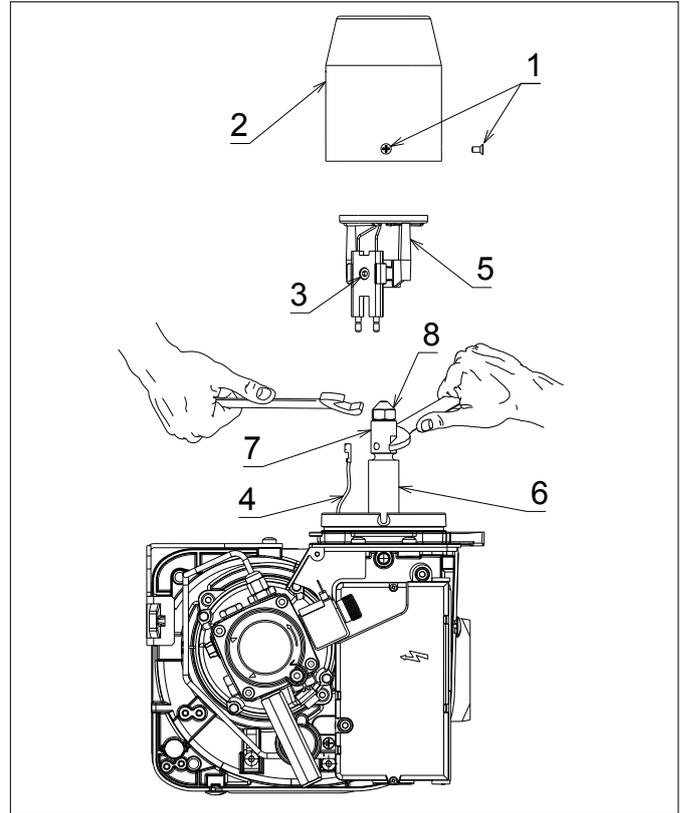
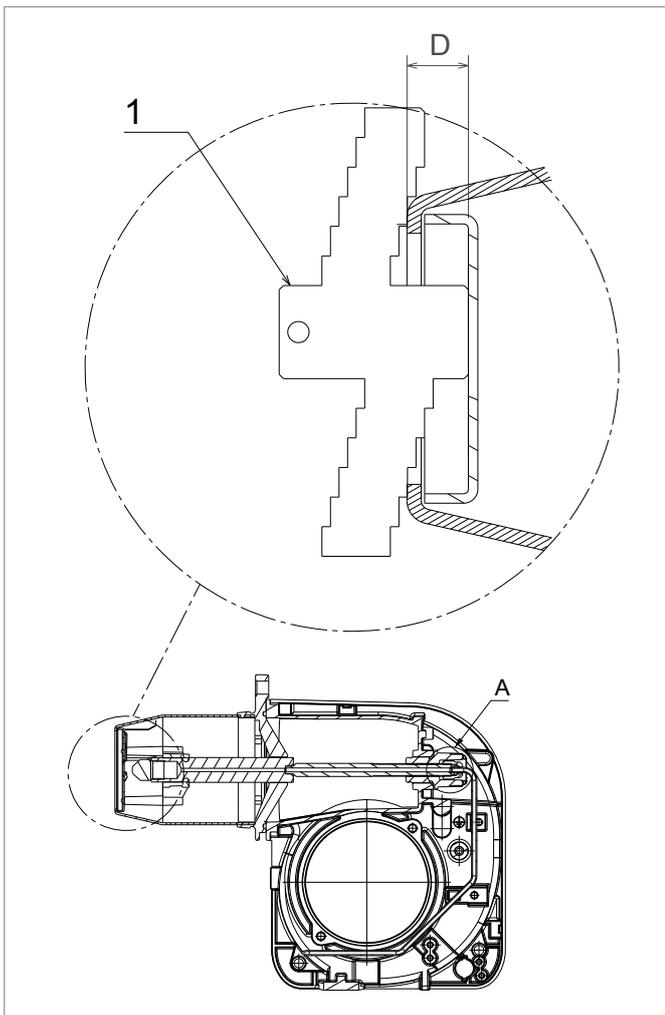

Figure 10-4: Burner head, diffuser and nozzle holder
Figure 10-6: Diffuser position and gauge plate
1. Remove the burner head. Refer to Figure 10-4. Loosen the three fixing screws (1) and remove head (2) from burner.
3. If the nozzle needs to be replaced - remove the diffuser/ electrode assembly. Refer to Figure 10-4.
- Using a 4 mm Allen key, loosen the diffuser fixing screw (3) on the electrode assembly.
- Lift diffuser/electrode assembly (5) up and off the nozzle holder.
- Disconnect both ignition leads (4) from the electrodes.
5. Re-fit the diffuser/electrode assembly. Refer to Figure 10-4.
- Reconnect ignition leads (4) to electrodes.
- Re-fit the diffuser/electrode assembly (5) onto the nozzle holder lining up the fixing screws with the recess in the nozzle holder.
- Tighten the fixing screw (3) to secure the diffuser/ electrode assembly in place on the nozzle holder.
7. Re-fit the burner head. Refer to Figure 10-4.
- Locate the head fixing screws (5) in the countersunk slots in the burner collar.
- Tighten the two screws (1) to secure the head (2) in position on the burner.
8. Adjust the diffuser position. Refer to Figure 10-6.
- Position the gauge plate on the burner head as shown in Figure 10-6.
- If necessary, adjust distance D using the black adjustment knob located around the oil supply pipe on the front of the burner. Refer to item A (Figure 10-6). Re-check distance D using the gauge plate, as described above.